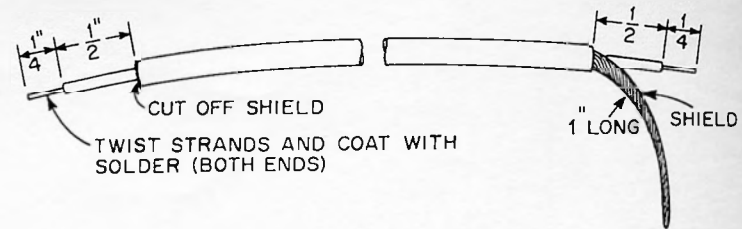

FIGURE 18. CABLE PREPARATION
- Prepare a 4" and a 6" length of shielded cable as shown in Figure 18. Connect the two wires as follows: